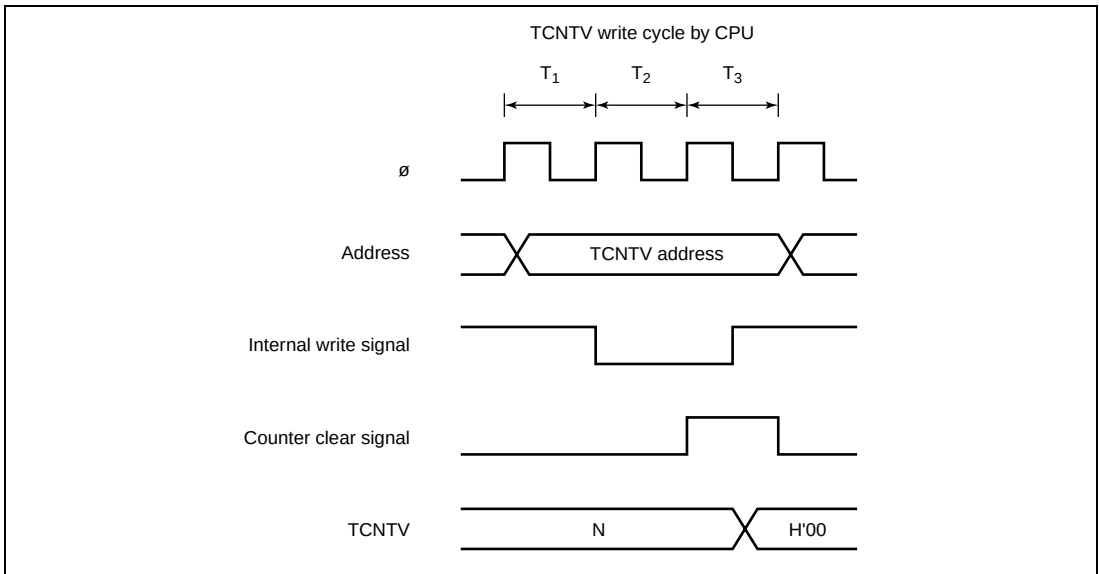

Figure 10-11 Contention between TCNTV Write and Clear
1. Writing to registers is performed in the T3 state of a TCNTV write cycle. If a TCNTV clear signal is generated in the T3 state of a TCNTV write cycle, as shown in figure 10-11, clearing takes precedence and the write to the counter is not carried out. If counting-up is generated in the T3 state of a TCNTV write cycle, writing takes precedence.